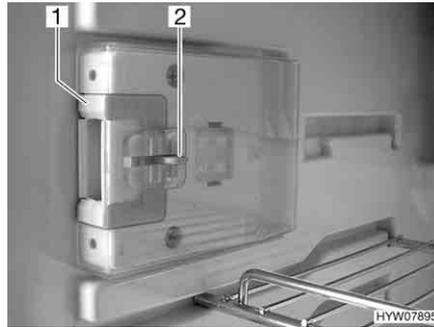
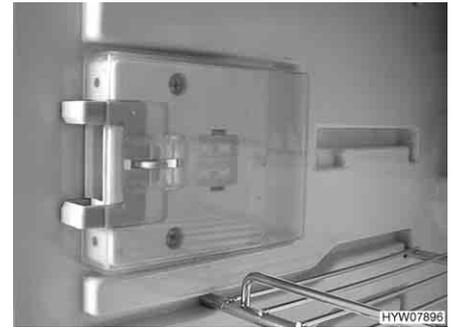

Fig. 217 Locking device in normal position
Fig. 218 Locking device in ventilation position
- Press down the unlocking device (Fig. 217,2).
- Push locking device (Fig. 217,1) forwards (Fig. 218).